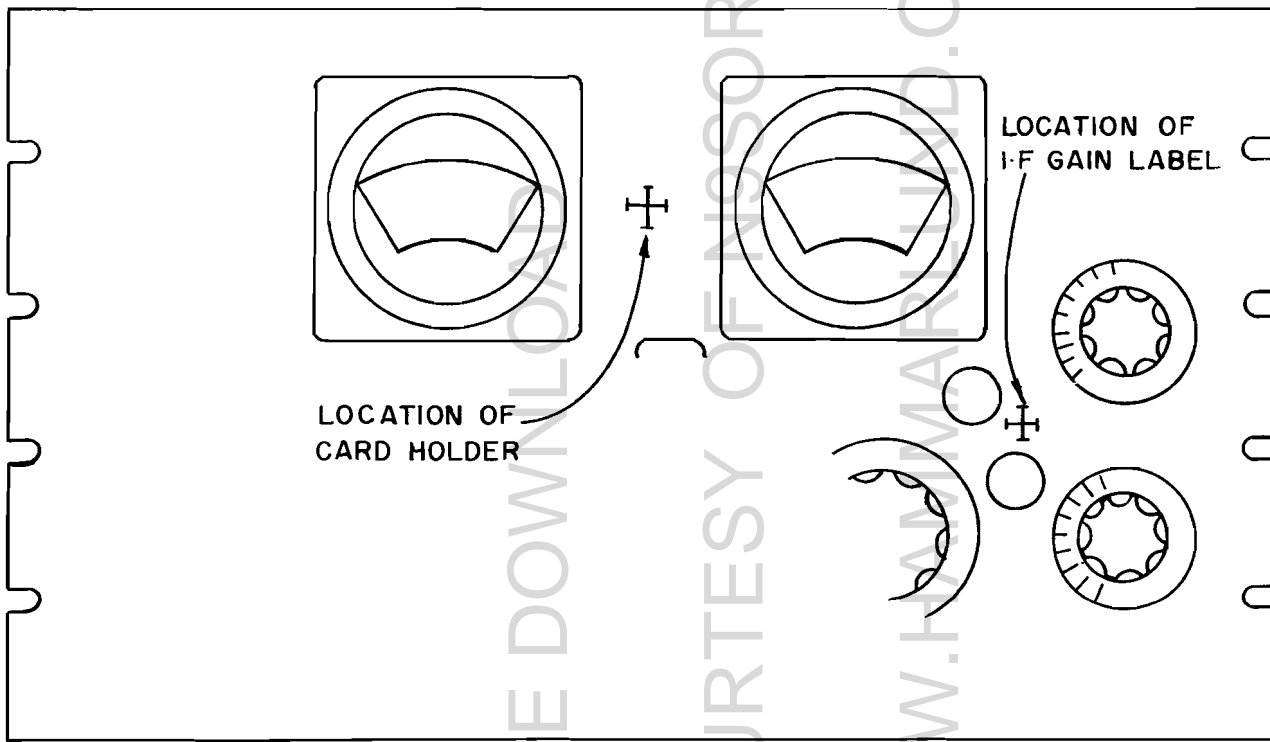

Figure 1. Location of IF Gain Label and Card Holder
- b. Addition of IF Gain label and card-holder to the front panel (see Figure 1).
- (1) Remove bottom plates from receiver and tuning unit.
- (2) Remove dial lock knob and assembly, retaining the knob, nut and lockwasher for later use with new IF Gain control.